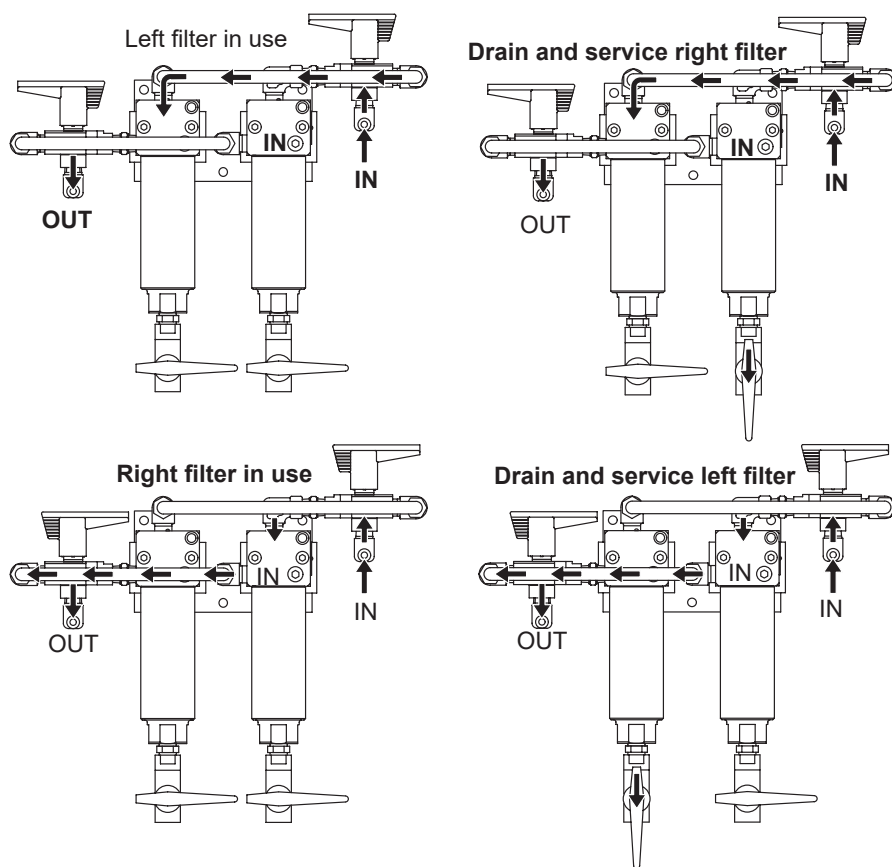
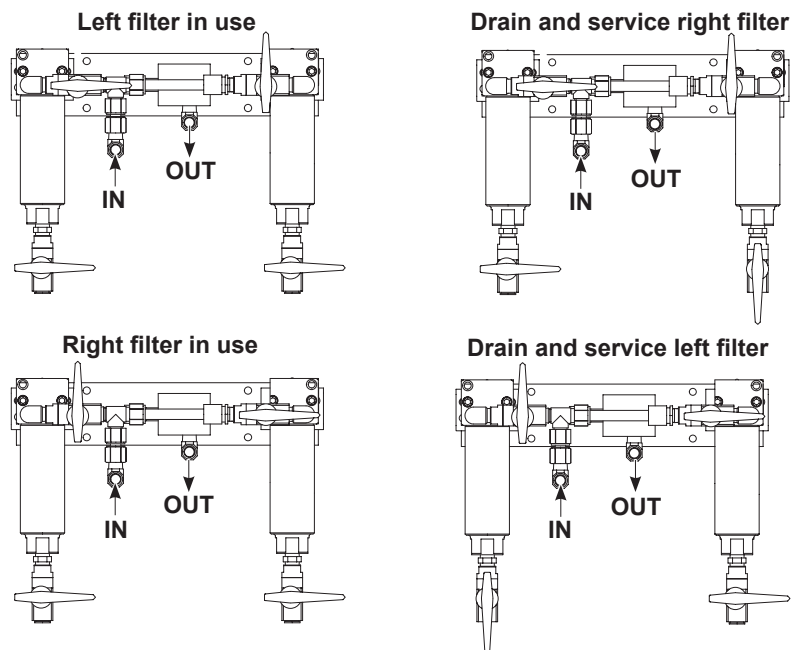

Figure 2 Handle Positions –Inverted Dual Filter Assembly with Three-Way Ball Valve –Standard
Figure 4 Handle Positions -Inverted Dual Filter Assembly with Check Valves
**NOTE:** Torque filter bowl to 15–20 ft-lbs. Do not over-tighten. Connect input and output fluid hoses to the IN and OUT 1/2-20 JIC fittings as shown in Figure 2 - Figure 4. Flush the filter with solvent prior to the first use. Failure to do so could result in paint contamination.
See Figure 2 for handle positions.